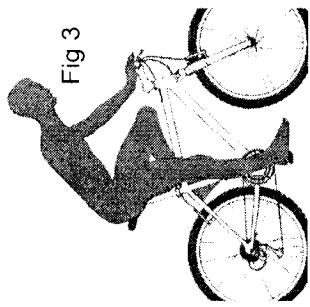

Fig 3
1. **Up and down adjustment.** To check for correct saddle height (Fig. 3):